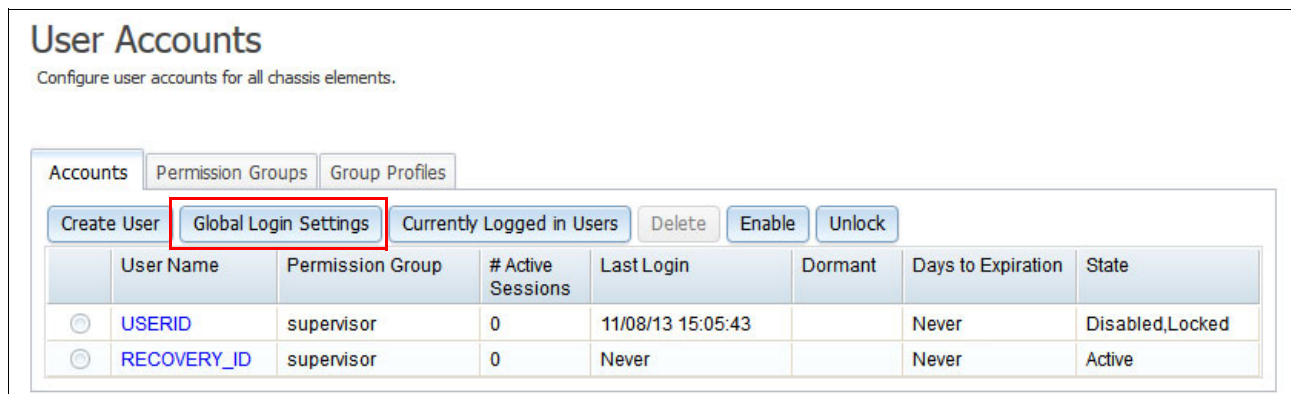

Figure 4-32 User account window
2. Click **Global Login Settings** on the Accounts tab in the User Accounts window, as shown in Figure 4-32.